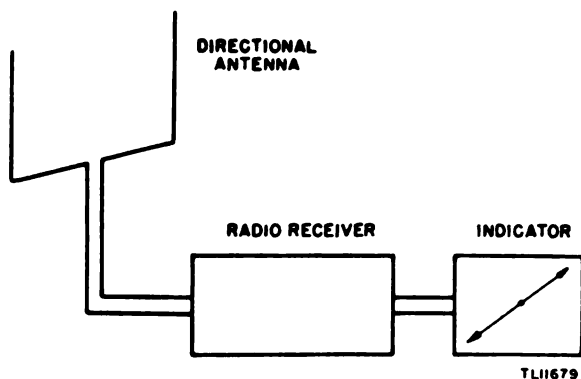

Figure 60. Elementary direction finder.
**a. General.** A radio direction finding system consists essentially of a directional antenna system, a sensitive radio receiver, and a suitable indicating device (fig. 60). The actual determination of the direction of arrival of the radio signal is accomplished by the antenna system. The radio receiver detects and amplifies the antenna voltages, and the indicator interprets the results for the human senses. The principle involved in determining the location of the radio transmitter is to find the direction of arrival of the re-